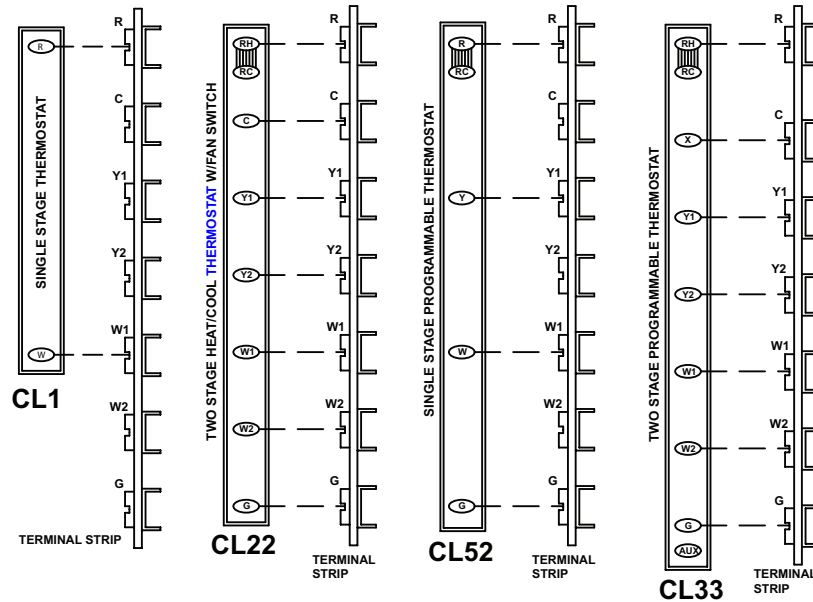

Figure 24. Wiring Connections for Options CL1, CL22, CL52, and CL33
- Control wiring enters on the right side of the heater and connects to the terminal strip in the control compartment (see Figure 24).